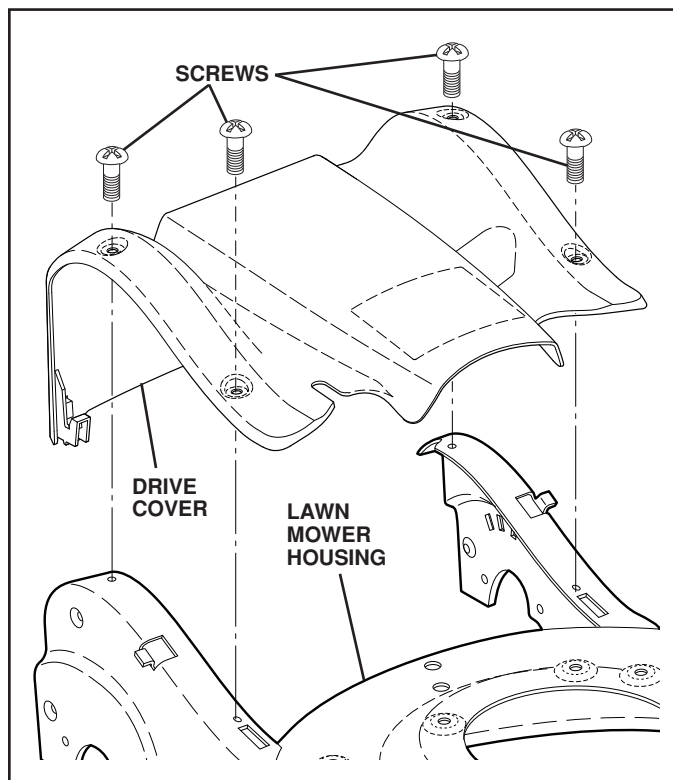

FIG. 18
TO REMOVE DRIVE BELT (See Figs. 18–21)
2. Remove screws retaining drive cover and remove drive cover from lawn mower housing (See Fig. 18).
11. Reattach drive cover with screws previously removed (See Fig. 18).